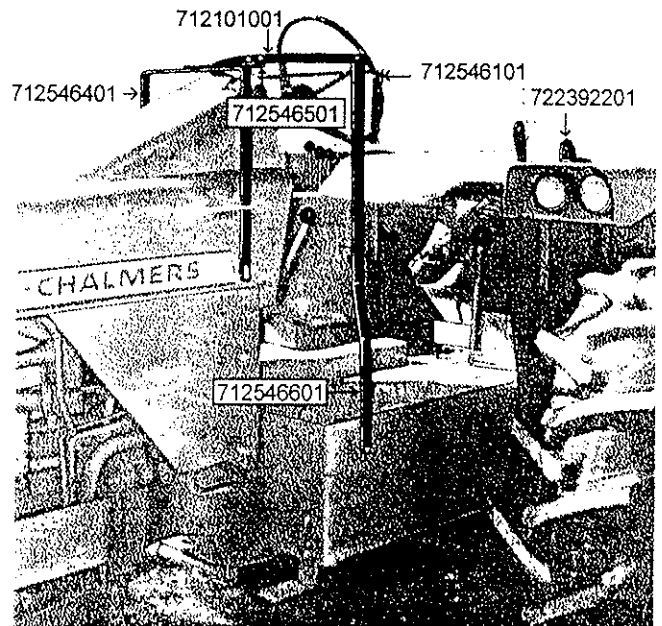

Figure 2
6. Slide the #712546601 door post up into wide hem on left side and bolt to yoke using 1/4" x 1" bolt. See Figure 2.
7. Slide floor plate over battery box to side and remove bolt on side of box. Bolt bottom of door post to tractor using 3/8" x 1 1/2" bolt. See Figure 2.
10. Place #722392201 door latch on left fender so the rear edge of door sets in latch. Mark and drill 13/32" hole in fender. Bolt door latch to fender using 3/8" x 11/2" bolt. See Figure 2.